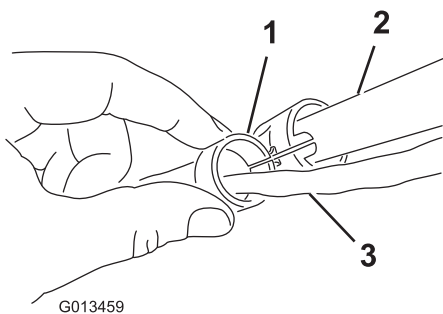

Figure 2
4. Attach the cord guide to the handle (Figure 2).